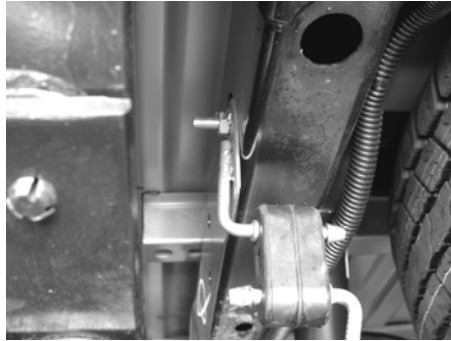

Figure 12
6. Using the hardware supplied, install hanger/bracket assembly on driver side frame rail as shown in figure 12. Install rubber bracket on to hanger/bracket assembly.